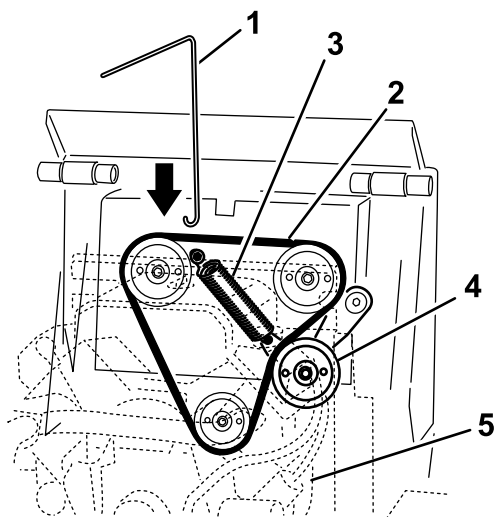

Figure 50
3. Connect the hook on the spring-removal tool to the hook on the idler pulley spring, and disconnect the spring from the stud as illustrated in Figure 50.